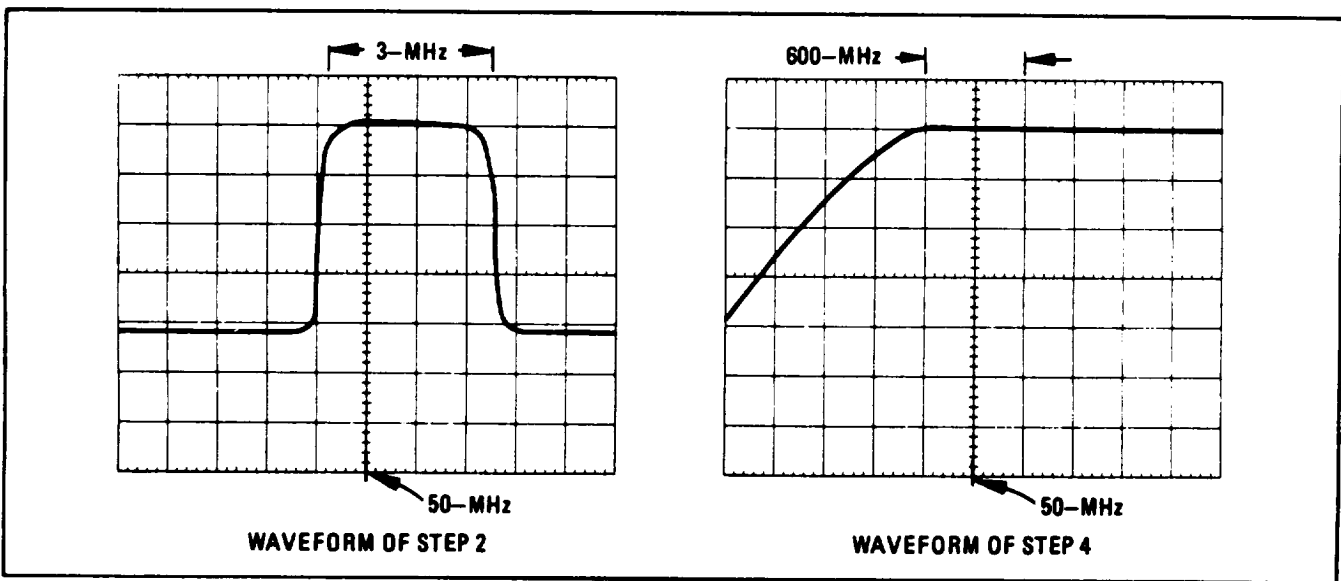

Figure 5-13. 50 MHz Bandpass Display for 10 MHz and 3 MHz Sweeps
POSITION . . . . .	(see Figure 5-13)
2. Adjust Generator/Sweeper and oscilloscope to display a 10 MHz swept signal centered on 50 MHz. (See Figure 5-13.)
4. Select 3 MHz sweep width on the HP 8601A and observe oscilloscope display for a bandpass as shown in Figure 5-13. Repeat Step 3 as required to obtain desired bandpass.